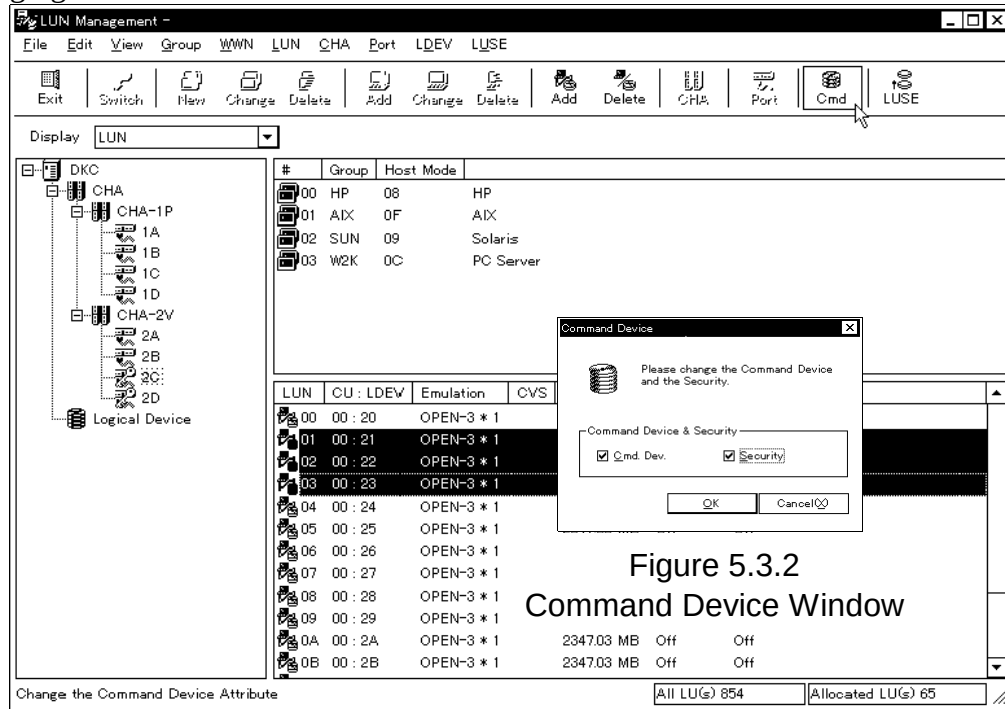

Figure 5.3.1 Main Window
- ① Select (CL) LUN from the lower right list.
- ② Select (DR) [Command Device] from the [LUN] menu in the Main window (Figure 5.3.1).